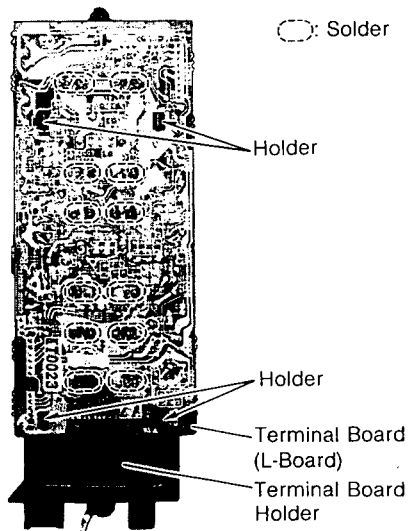

Figure 8
- d) Unsolder the points indicated in fig. 8 and remove the terminal board holder from the terminal board (L-Board).